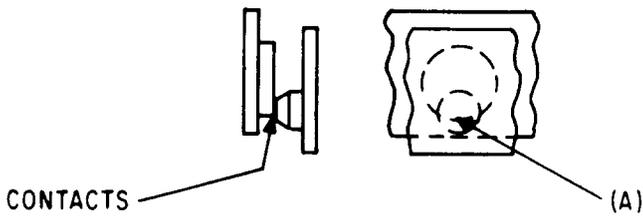

Fig. 1—Contact Alignment Requirements
***2.02 Contact Alignment:** Figure 1(A)—The point of contact shall fall wholly within the boundary of the opposing contact.